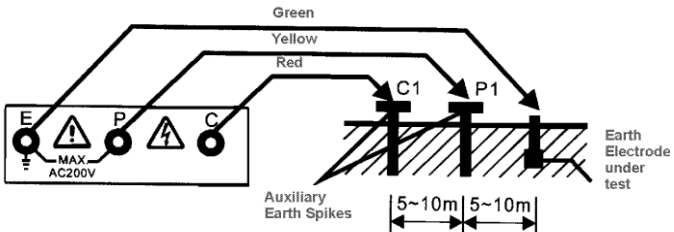

Fig. 1
- (1) Connect green, yellow and red test leads to instrument terminals E, P and C with auxiliary earth spikes P1, C1 inserted into earth "IN A STRAIGHT LINE". (Fig. 1)
- (2) Rotate the function switch to the proper range, then press the push-button to test and take the reading.
(6) Since the measuring current is as low as 2 mA, the earth leakage breaker (ELCB) does not trip even if the earth side of the commercial power supply with an ELCB is used.
* Follow the proper connection as shown in Fig. 1. The LED (red) indicator will be lit. This proves, that a correct current circulation is under its operation.